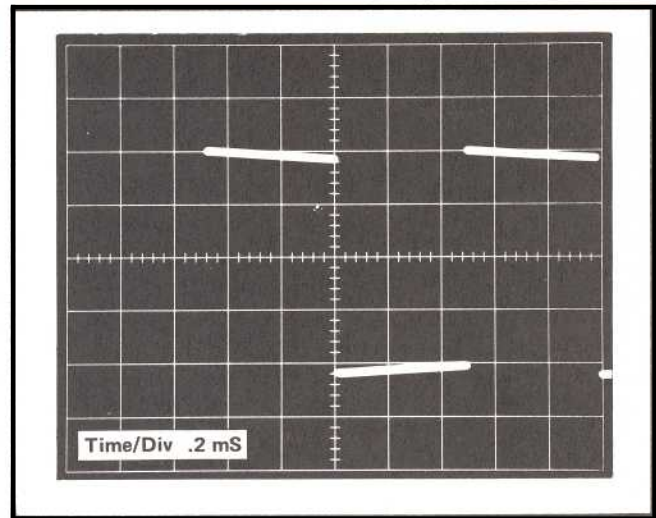

Fig. 5-5. LF Comp correctly adjusted using P6021 probe for 1 minor division of tilt in the first 500 μ s.
- b. **CHECK**—For 0.2 division of tilt in the first 500 μ s of the square wave. See Fig. 5-5.